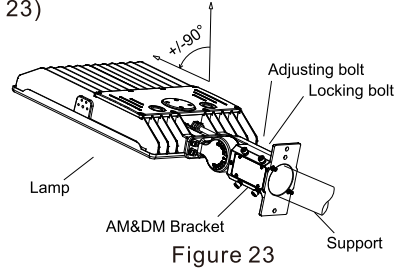

Figure 23
Step 2: Loosen the 4 locking bolts on the slip fitter, connect the wire correctly and put the wire into pole. Then fasten the locking bolts between slip fitter and the pole. (Figure 23)
Tighten adjusting bolt and fixing bolts after the angle is confirmed. (Figure 23)
Notice: Adjustable angle is 0~+/-90° (Figure 23)